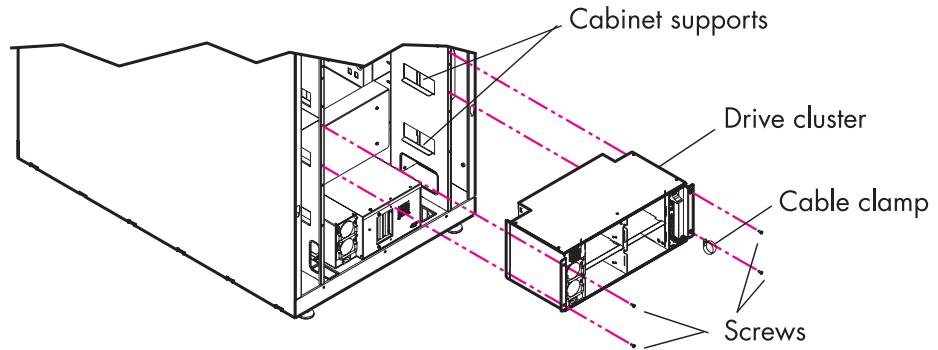

Figure 27: Installing the drive cluster
Note: Retain the cable clamps and ensure they remain attached to the drive clusters (see Figure 27). The clamps will be used for routing cables later in this procedure.
- Secure the cluster to the library frame using four Phillips screws (see Figure 27).